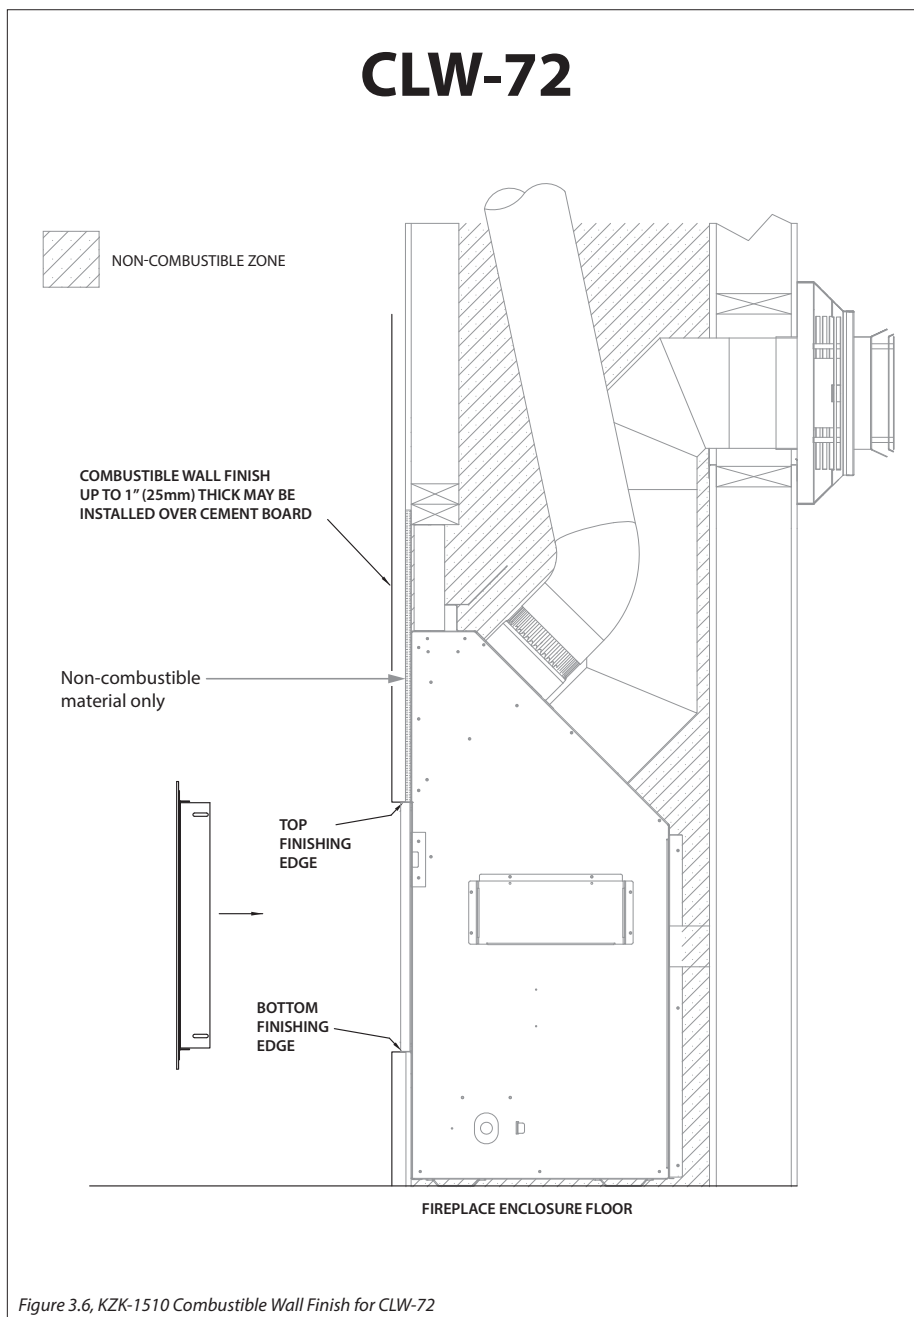

Figure 3.6, KZK-1510 Combustible Wall Finish for CLW-72
- Figure 3.6 shows installation of combustible wall finish up to 1" thick. This combustible material goes on any required non-combustible materials as shown in Figure 3.1 on page 14.
- Figure 3.6 shows installation of combustible wall finish up to 1" thick. This combustible material goes on any required non-combustible materials as shown in Figure 3.3 on page 15.